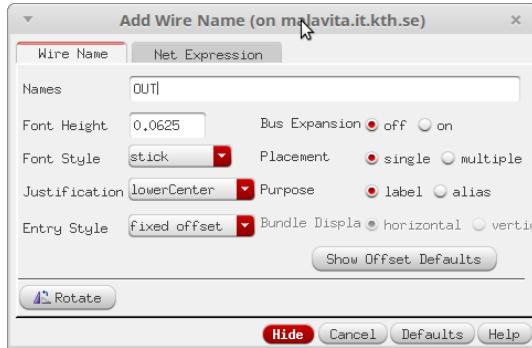

Figure 21: Adding labels to nets
4. In general it is useful to assign labels to the most critical nets in a schematic in favor of an easier simulation setup. As we will see in the coming section, the net names will be used in the calculation of some performance metrics. To name a net, press 'l' and write the name you wish in the field: "Names" (see Fig. 21). Then click on the net. You will notice that a label is now placed on top of that net.